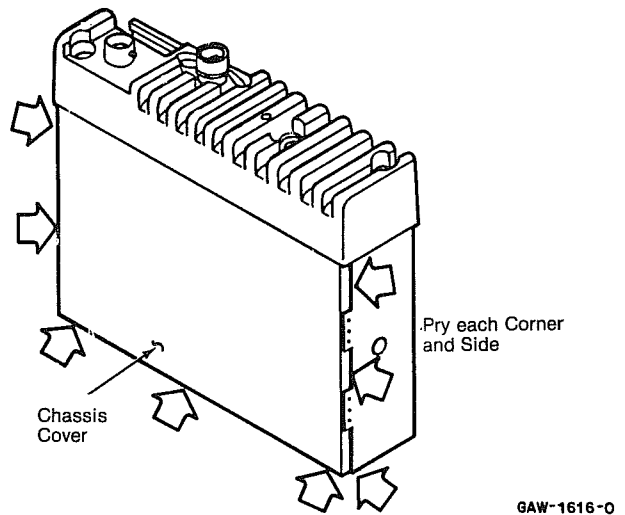

Figure 10
(2) Remove the chassis cover from the chassis by prying each corner a slight amount (Figure 10). Be careful not to overbend any one corner or side.